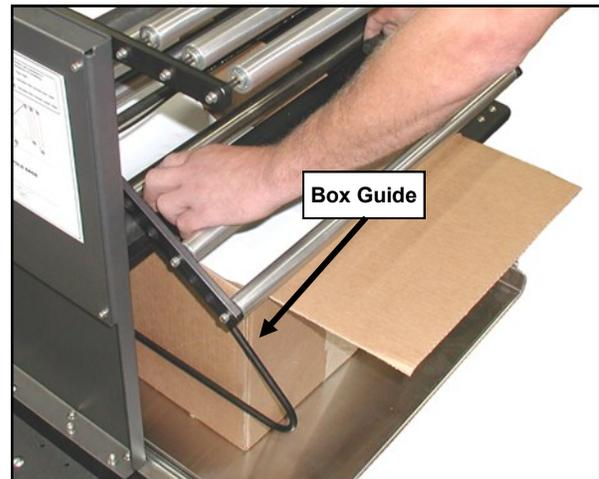

Figure 2-4D. Box Guides
4. Slide the tray into the forward position. Loosen the knobs on both Box Guides and slide both guides the same distance inward until box is pinched between them. **Figure 2-4D.**